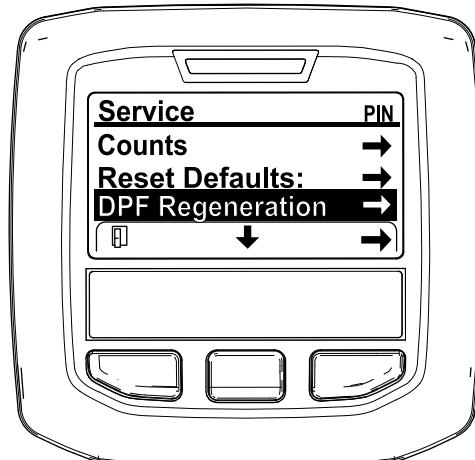

Figure 45
- In the SERVICE MENU, press the middle button until the DPF REGENERATION options displays, and press the right button to select the DPF REGENERATION option (Figure 45).